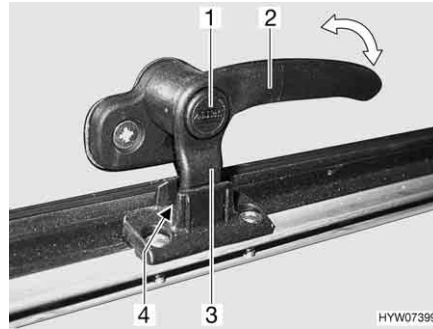
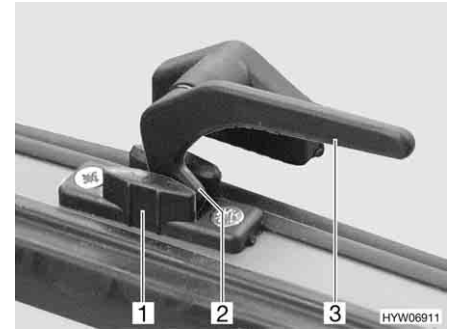

Fig. 105 Catch lever with safety knob in "continuous ventilation" position
Fig. 106 Catch lever in "continuous ventilation" position
- "Continuous ventilation" (Fig. 105 and Fig. 106)
- Press and hold the security button (Fig. 105,1), if present.
- Turn all catch levers (Fig. 105,2 or Fig. 106,3) a quarter turn towards the centre of the skylight.
- Return all catch levers to their initial position. The locking catch (Fig. 105,3 or Fig. 106,2) has to be moved into the recess of the skylight lock (Fig. 105,4 or Fig. 106,1).